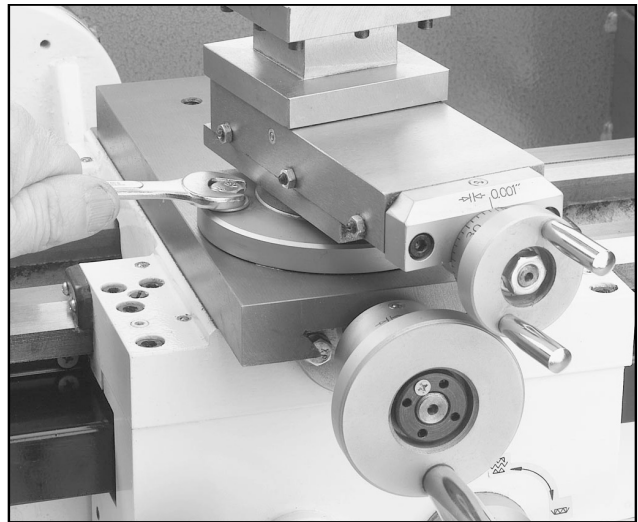

Figure 13. Removing compound slide bolts.
1. Use a 12 mm wrench to remove the two bolts that secure the compound slide to the cross slide. See **Figure 13**.